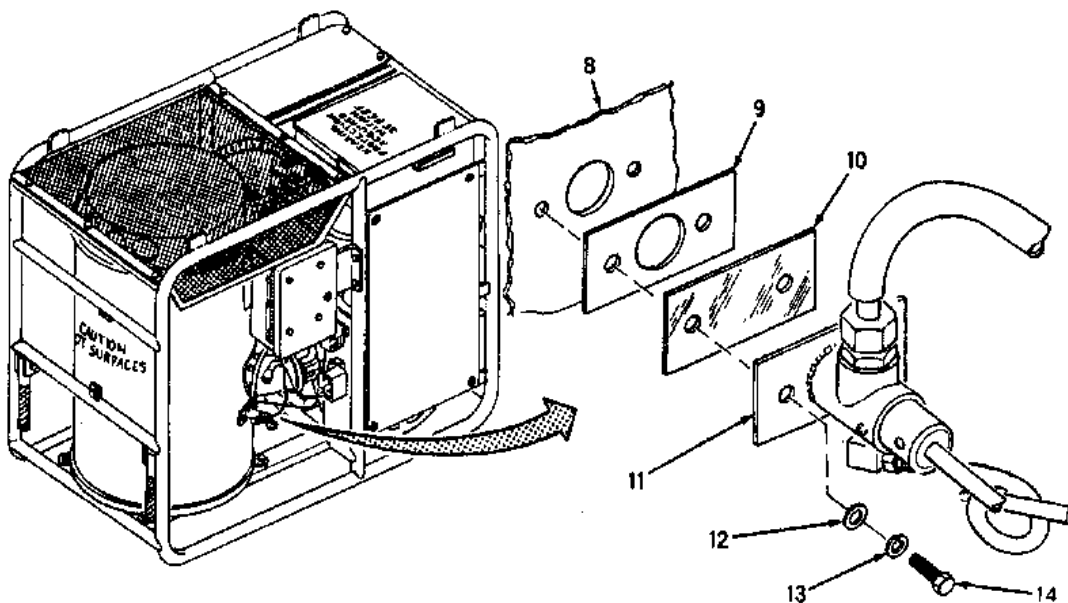

Figure 15, Repair Mica Window
Step 20: Repair mica window. (Figure 15)